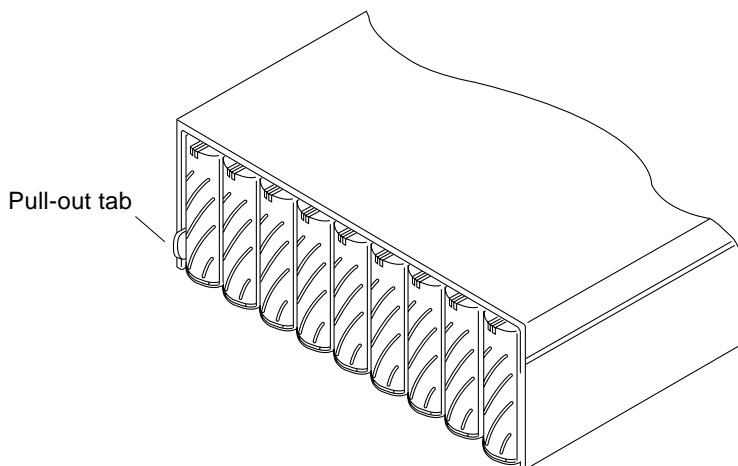

FIGURE 5-3 Serial Number and MAC Address on Pull-out Tab
- 5. Locate the pull-out tab at the left side of the array next to the first disk drive (FIGURE 5-3).**
- **MAC address.** See FIGURE 5-3 for the MAC address location. See Step 1 of the following procedure for the format of the MAC address.